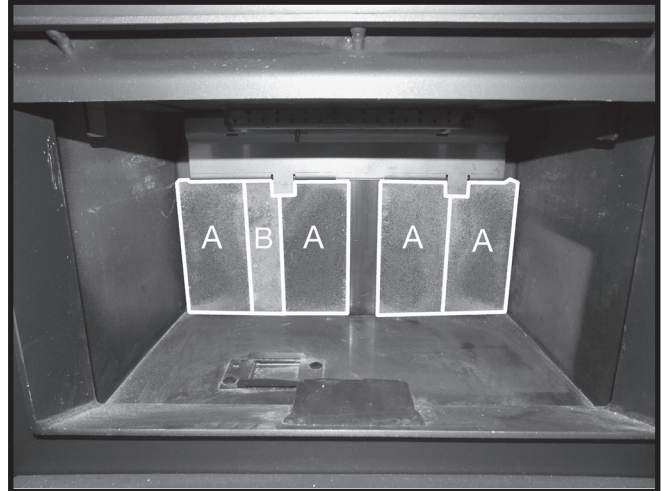

Figure 16: Left side rear wall A and B brick placement.
2. On the left side of the rear wall, stand two "A" bricks with one "B" brick in between them. Slide the bricks toward the center of the rear wall (Figure 16)